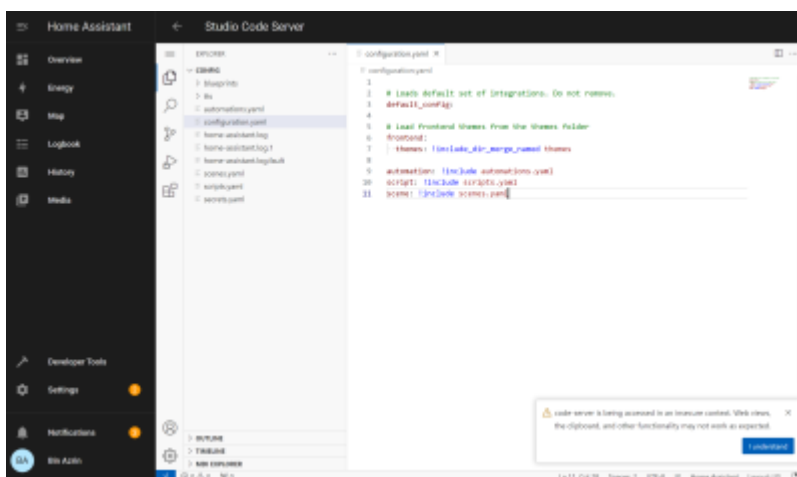

Fig 23: “**Configuration.yaml**” with the help of Studio Code Server to upload the code. Source: own image – Ainul Danish
- **Uploading codes:** After MQTT being set, uploaded was the relative codes into the Home Assistant for ESP32 Cam to read and send the data. Stated here are the Home Assistant configurations and finding the “**configuration.yaml**” file. One of the best ways is to download the “Studio Code Server” add-on from Home Assistant, as it helps to navigate around Home Assistant such as searching for files much easier. This leads to the configuration files (Fig 23). Unfortunately, development with Home Assistant was put to a halt here, as the ESP32 CAM wasn't able to connect to the laptop with Home Assistant installed.